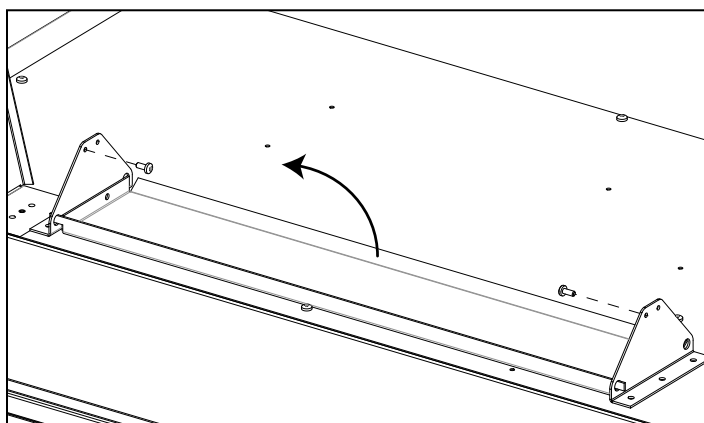

Figure 25: CSS flaps - closed
7. Rotate the CSS Flaps up so the prepunched holes align where the screws from the previous step were removed. Reattach the screws to hold the plates in place (see Figures 25 & 26).